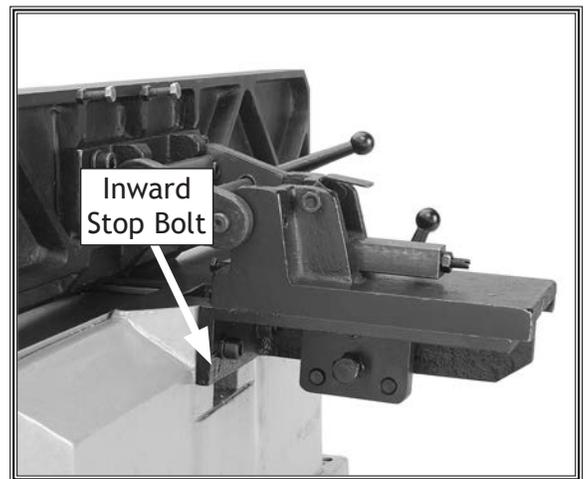

Figure 44. Adjusting the inward stop bolt.
7. Using two 8mm wrenches, adjust the inward stop bolt (see **Figure 44**) until it contacts the fence at precisely 45° inward, then tighten the jam nut (where the bolt meets the bracket assembly) while holding the stop bolt in place. Some trial-and-error will be required to set this stop correctly.